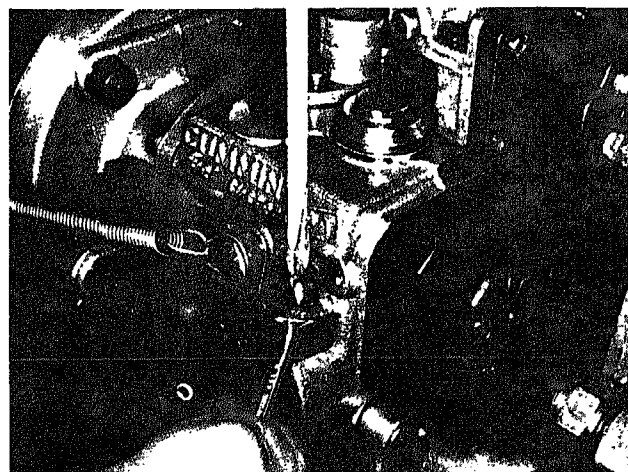

Fig. 511-33. Final fuel manifold pressure adjustment
1. After Step G-1, where throttle shaft contains the internal restriction plunger, with pump running at speed indicated by "Fuel Manifold Pressure", turn in rear throttle screw until fuel pressure is reduced to value indicated. Fig. 511-33. Lock screw in place. (At this point an NH-220 pump will show 140 psi at 2100 rpm at 425 #/hr.)